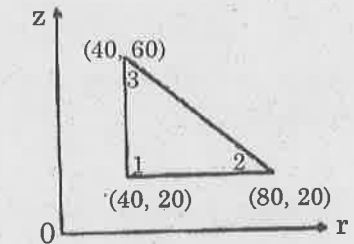

Fig. 3
- (b) Calculate the element stresses for the axisymmetric element shown in Fig. 3. The nodal displacements are